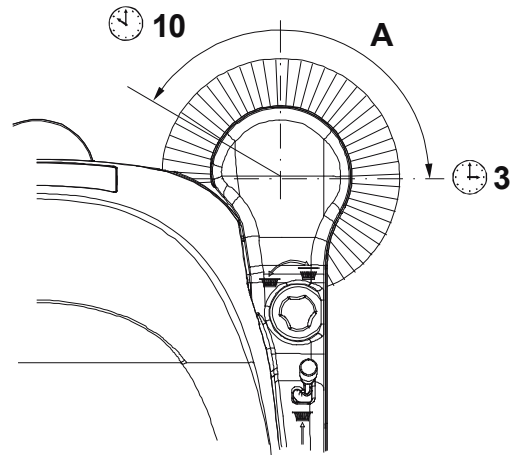

Figure 1
- Turn off the side broom by pressing the switch (1), then lift it and move the machine.
- Check that the side broom print is as shown in the figure (A, Fig. 1): the side broom must touch the ground along a circle arc ranging from "10 o'clock" position to "3 o'clock" position.
- Turn the knob (13) clockwise and counter-clockwise to adjust the broom height.